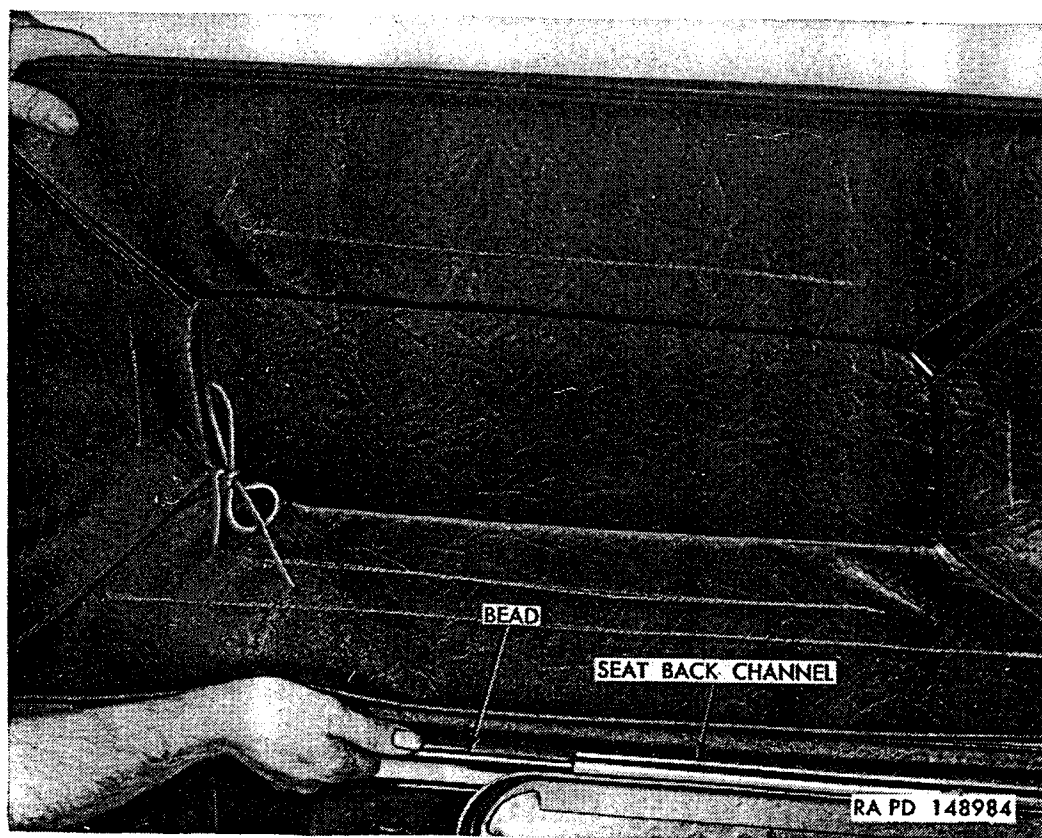
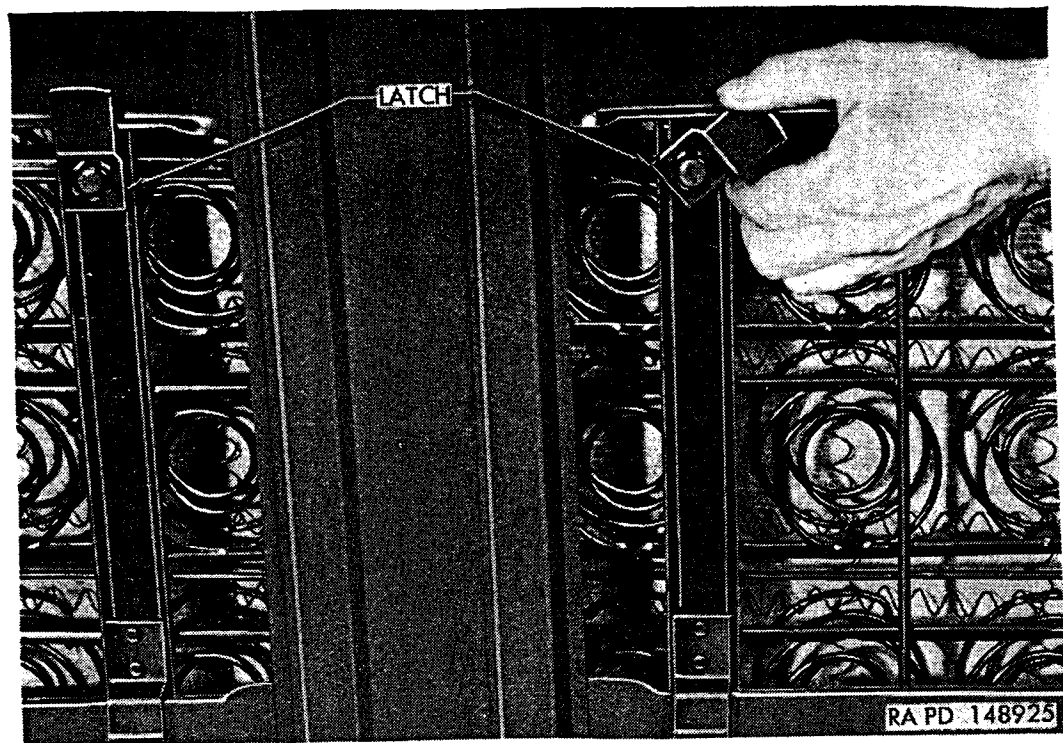
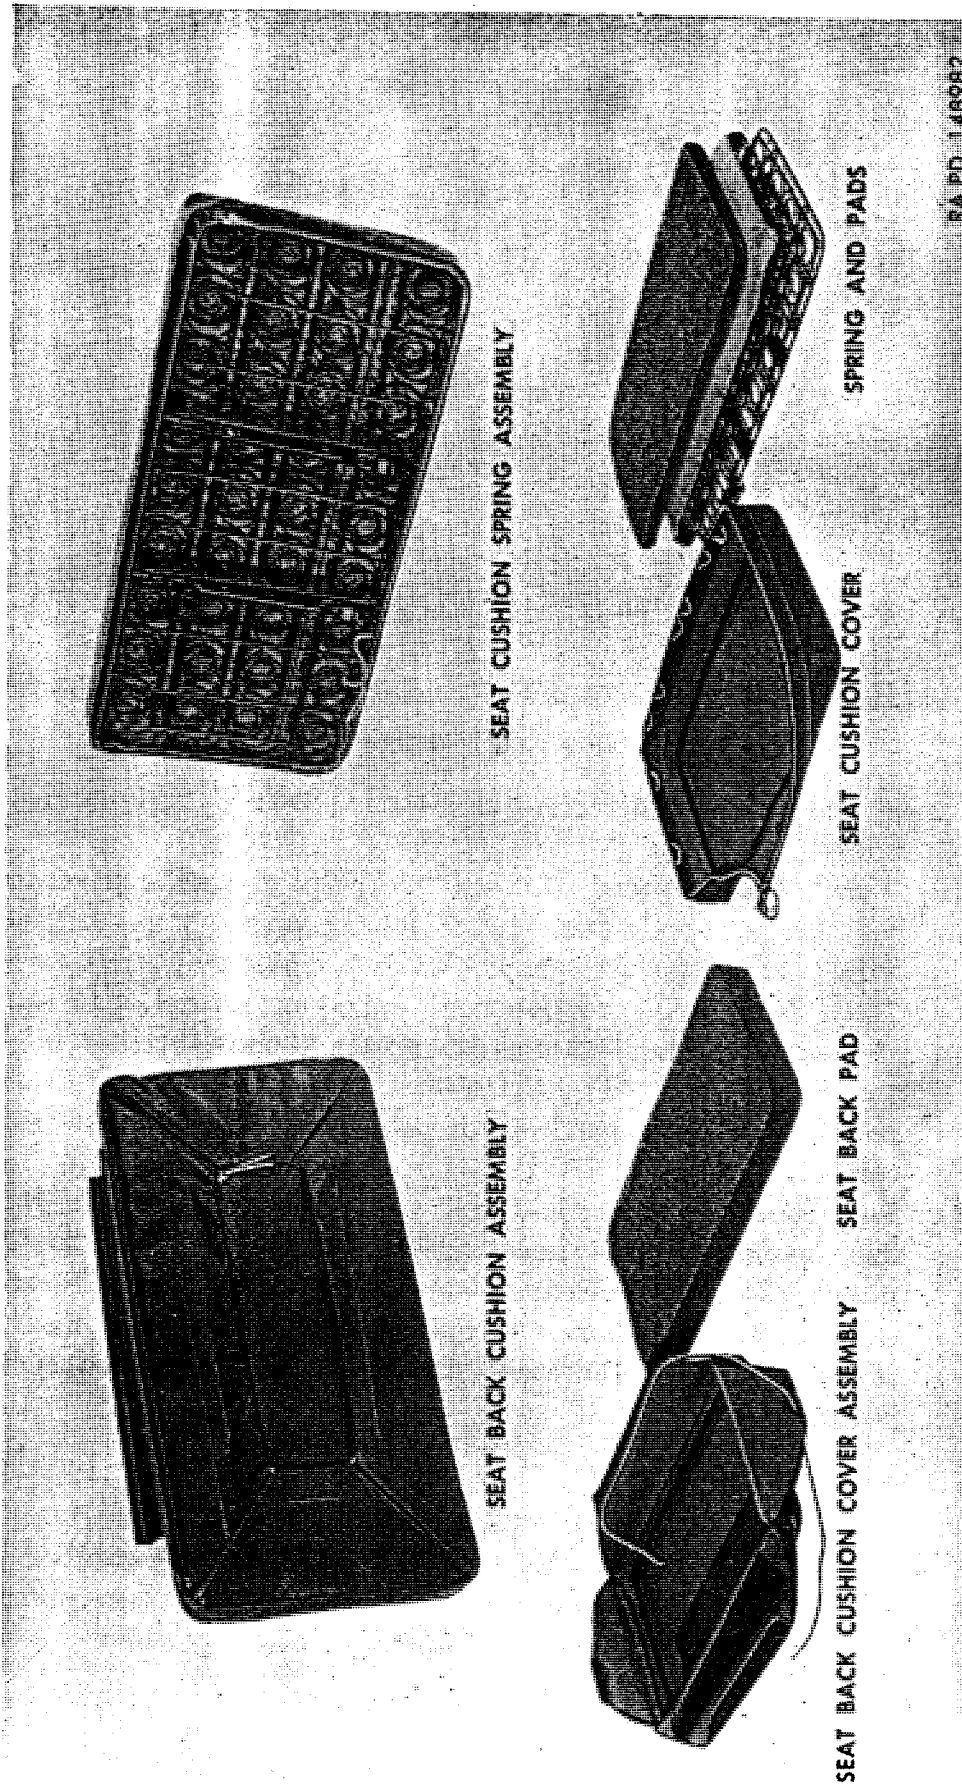

Figure 319. Companion seat back cushion removal.
Figure 320. Companion seat cushion removal.
Figure 321. Companion seat cushions disassembled.
- (1) *Removal and disassembly.* Pull bottom of seat back cushion forward and upward. Slide seat back cushion to side to disengage bead on cushion from metal channel on seat back (fig. 319). Raise seat bottom frame to vertical position. Disengage seat spring latches (fig. 320) by tapping with hammer. Lower seat bottom to horizontal position. Lift seat cushion from seat bottom frame. Untie lacing cord at bot-
tom of seat cushion, disengage cord from hooks on spring, and lift cover from pads and spring (fig. 321). Untie lacing cord at back of seat back cushion, pull cord from loops in cover, and lift pad from cover.
- (2) *Assembly and installation.* Position seat back pad in cover, thread cord through loops, pull cord taut and tie. Position seat cushion cover over spring and pads (fig. 321) and engage loops of cord in hooks on spring bottom (fig. 321). Pull cord taut and tie. Position seat cushion on seat frame, raise to vertical position, and engage latches (fig. 320), by tapping with hammer; then lower seat to horizontal position. Holding seat back cushion upside down, engage bead on seat back cushion in metal channel on seat frame. Slide bead fully into seat back channel (fig. 319); then lower cushion into place.